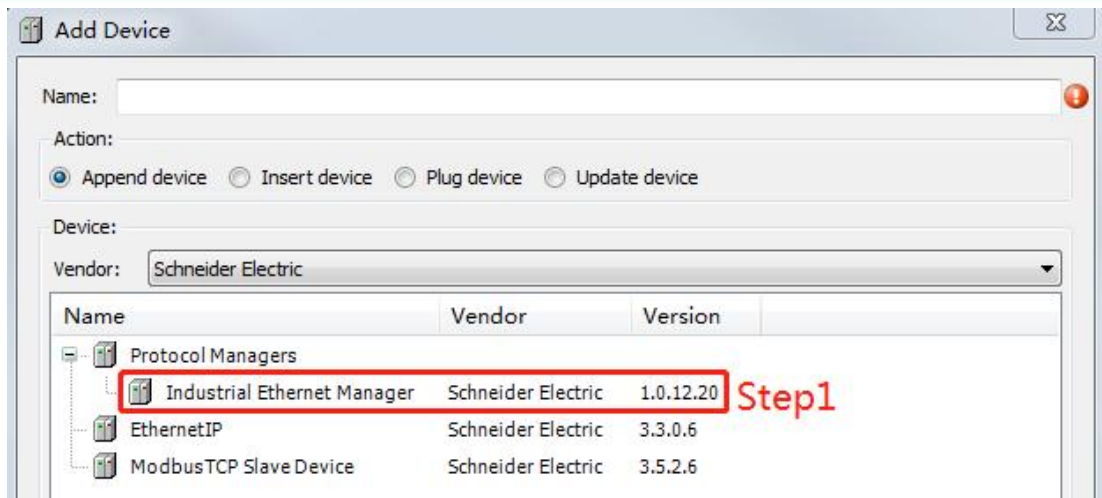

Figure 5-3-9
- As shown in Figure 5-3-9, double-click to add Industrial Ethernet Manager.